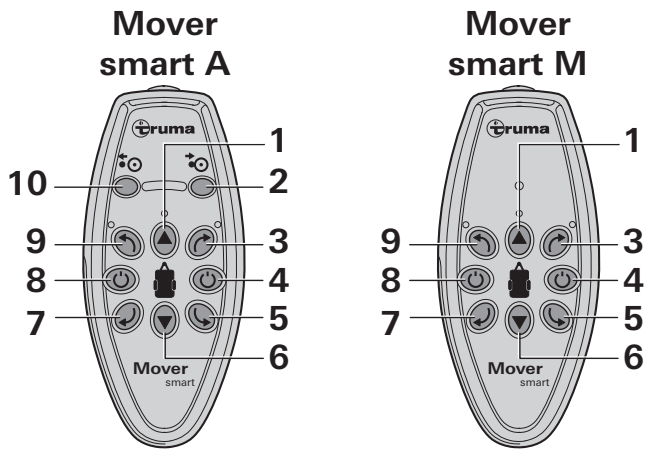
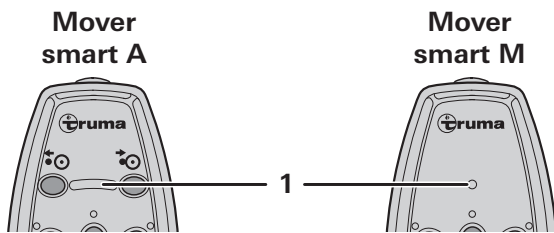

Figure 2
Figure 6
- Press the button (Figure 2 - 8) on the remote control until the LEDs light up (Figure 6 - 1).
**!** The “Off” switch on the remote control (Figure 2 - 4) can also be used as an “emergency stop switch”. In case of problems, e.g. uncontrolled behaviour of the Mover, press the “Off” switch immediately.
- Use the direction buttons (Figure 2 - 3/5/6/7/9) to move the caravan in the required direction.
**i** If you press opposite direction buttons simultaneously (Figure 2 - 5/9 or 3/7), the caravan rotates around its own axle in the respective direction.
- While moving (forward/backward), the driving direction can be changed with the direction buttons (Figure 2 - 3/9 and 5/7).